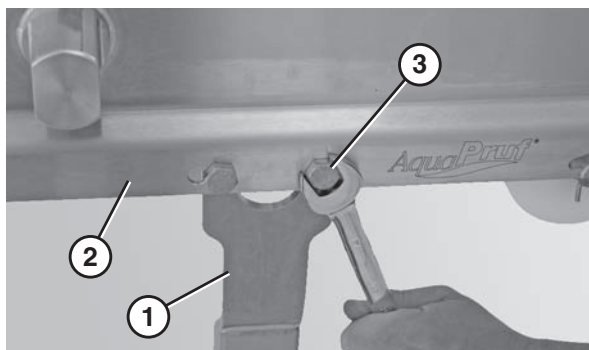

Figure 34
2. Attach the non-quick release side of the stand (**Figure 34, item 1**) to the MOTOR SIDE of the conveyor (**Figure 34, item 2**) using two M10-1.5 x 12mm hex head cap screws (**Figure 34, item 3**).